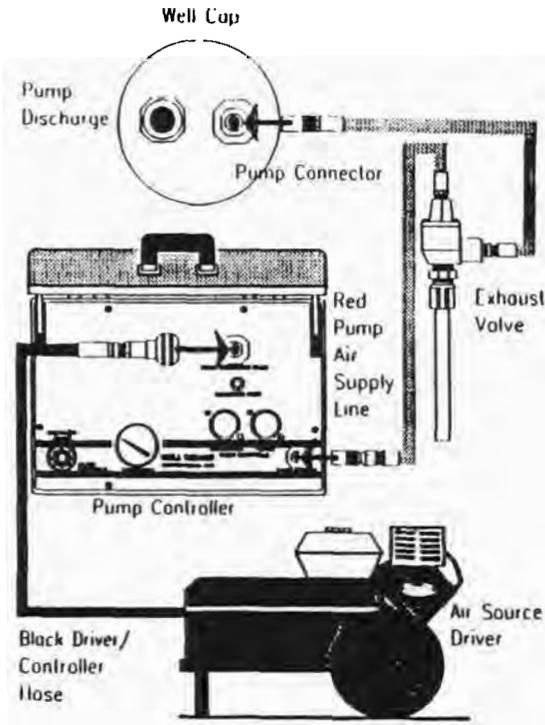

Figure 3-4: Connecting Purge Master
3. Connect the short end of the red pump air-supply line to the quick-connect nipple on the cap or cap plate nearest to the white high-rate discharge fitting (see Figure 3-4).